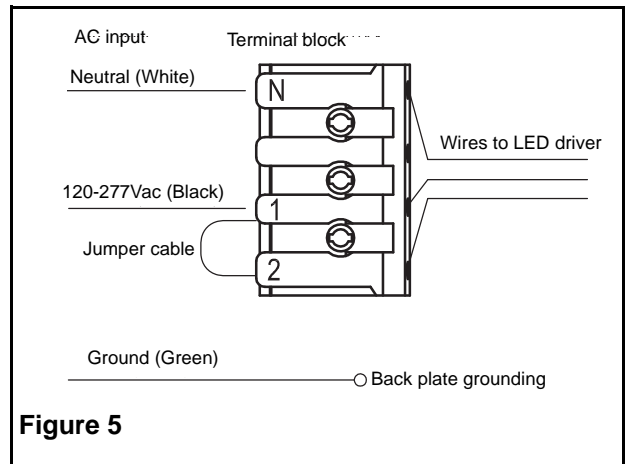

Figure 5
5. Make the proper connections (see figures 5 & 6): This unit can accept voltages of 120 - 277Vac. Connect the white wire (neutral) and the black wire (120-277Vac) to the building power supply.